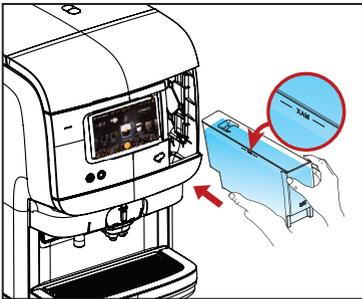

Fig.4
4. Erġa' imla t-tank tal-ilma sal-livell MAX (massimu) b'ilma nadif u frisk u erġa' poġġih fid-distributur. (Ara Fig.4)